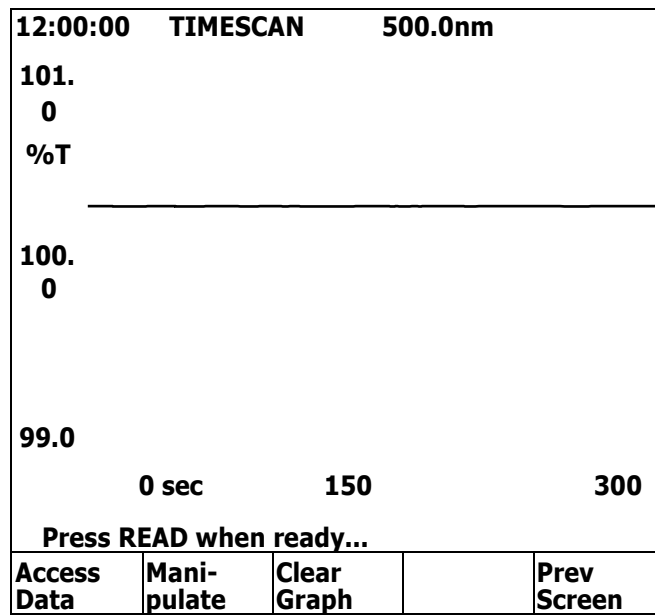

Figure 7.3 Measurement in TimeScan screen
Step 3. Make the sample ready and press READ. The measurement result will be displayed in the TimeScan screen (Figure 7.3) in real-time mode.